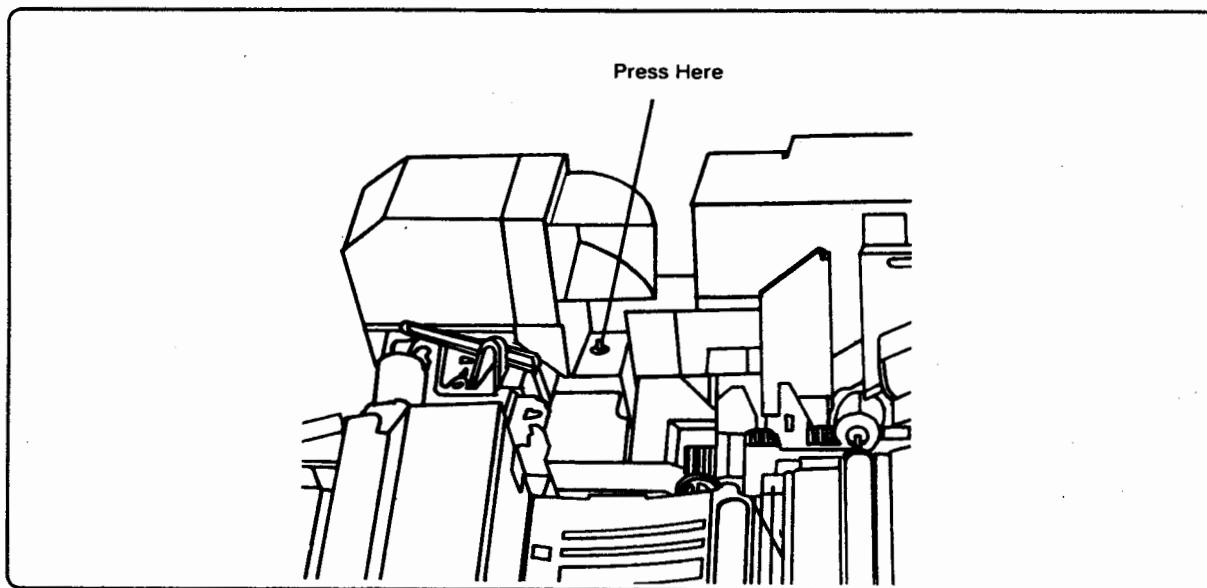

Figure 7-20. Fuser Circuit Breaker Reset
The main components of the fusing system are the fusing lamp and its associated fusing and pressure rollers, a Thermistor, Thermoprotector, and the AC controller/safety circuitry in the AC Power Module. AC voltage is applied to the fuser bulb via the AC Power Module circuitry which is regulated by the FUSER DRIVE (FSRD) signal from the DC Controller PCA. Feedback to the DC Controller is provided by the Thermistor signal (FSRTH). The thermoprotection switch is designed for over temperature protection and opens when the temperature reaches 210° C. Overcurrent protection for the fusing system is provided by circuit breaker CB101 on the AC Power Module (see Figure 7-20).
3. Is the circuit breaker on the AC Power Module tripped?	Reset breaker.* (See Figure 7-20.) If the breaker trips again, replace the Fusing Assembly or the AC Power Module.